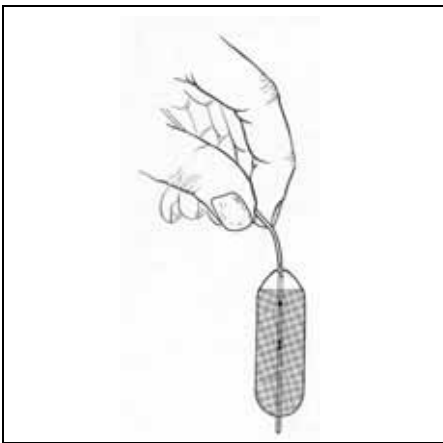

Figure 1. AMPLATZER™ Sizing Balloon II
The AMPLATZER™ Sizing Balloon II is a triple lumen balloon catheter with three (3) radiopaque marker bands located inside the balloon to allow for radiographic measurement. The center of the balloon contains a pair of marker bands 0.4 mm apart (inside to inside), and one (1) marker band 15 mm proximal of that pair (15 mm from the proximal edge of the pair of marker bands) (figure 1).
1. Inflate the balloon with saline solution and purge the air in a position as shown in figure 1 or inflate with CO2 and aspirate. Flush the other lumen with heparinized saline.